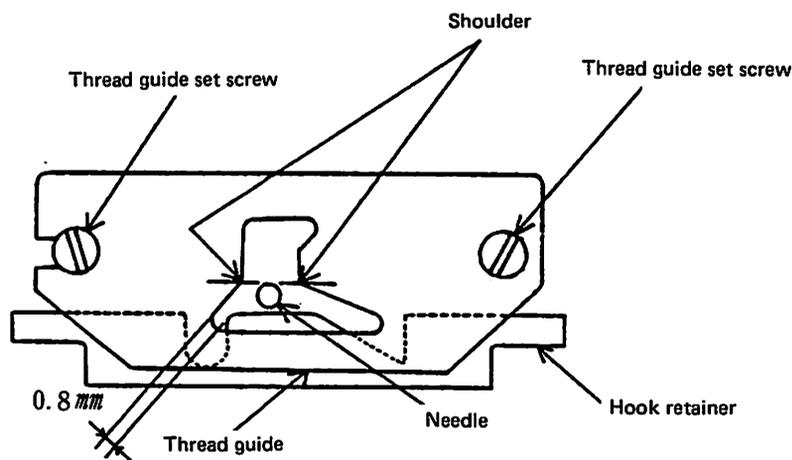

Fig. 10.7
10.1.5 Adjusting the thread guide (above hook) (Fig. 10.7)
If the movable knife is located too far from the needle hole, thread may not be trimmed satisfactorily, or the E-type stop ring strikes the thread guide set screw shown in Fig. 10.7. However, the movable knife located too close to the needle hole, trimmed needle thread tail might be caught between the fixed knife and the movable knife.